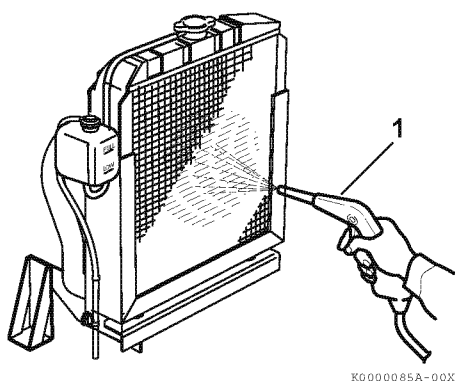

Figure 5-9
Note that a typical radiator is shown in **Figure 5-9** for illustrative purposes only.
1. Blow off dirt and dust from fins and radiator with 28 psi (0.19 MPa; 2 kgf/cm²) or less of compressed air (**Figure 5-9, (1)**). Be careful not to damage the fins with the compressed air.